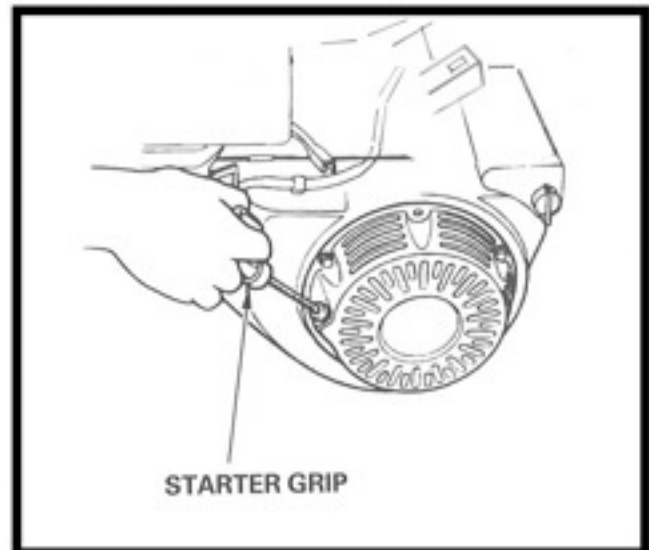

figure 6.2
5. Wearing eye protection, slowly pull the recoil start grip handle (See Figure 6-2) in an upward motion. This should force the fuel out of the cylinder cavity through the spark plug hole. Caution: This gasoline spraying out of the cylinder cavity is very flammable, use extreme caution and make sure there are no sparks or flames nearby.